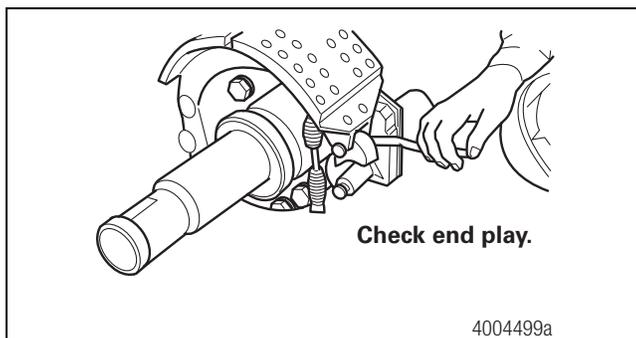

Figure 5.5
3. Add spacer washers to limit the slack adjuster end play to 0.060-inch (1.5 mm) maximum. Figure 5.5.